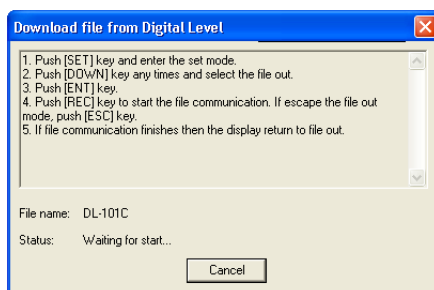

Figure 3-48. Digital Level Instructions – Preparing for Import
8. Select the desired file in the Total Station to download to the computer (Figure 3-48).